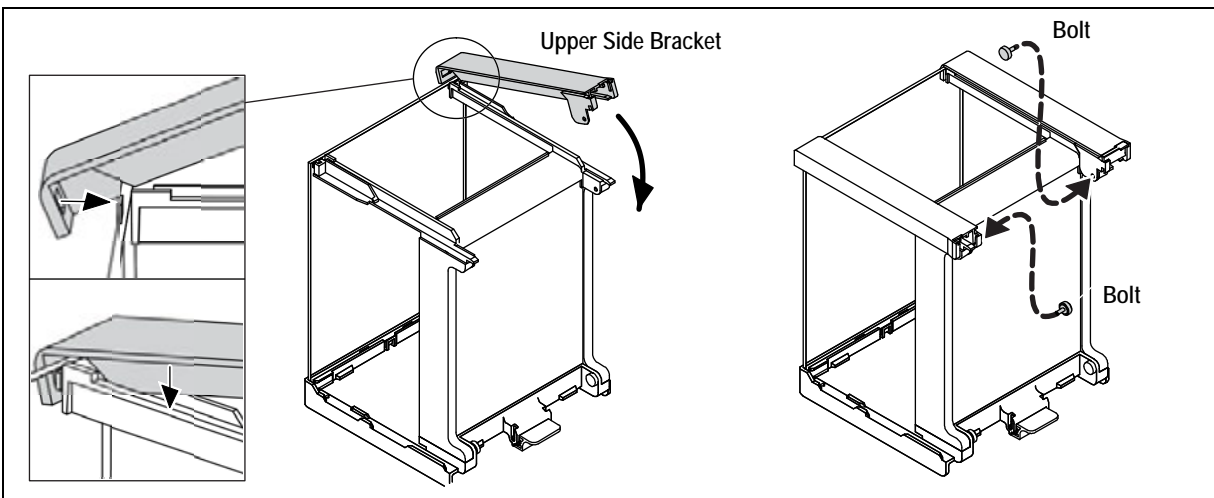

Figure 2-10. Install Top Brackets
7. Place the upper side brackets on the top of the assembly as shown in Figure 2-10.